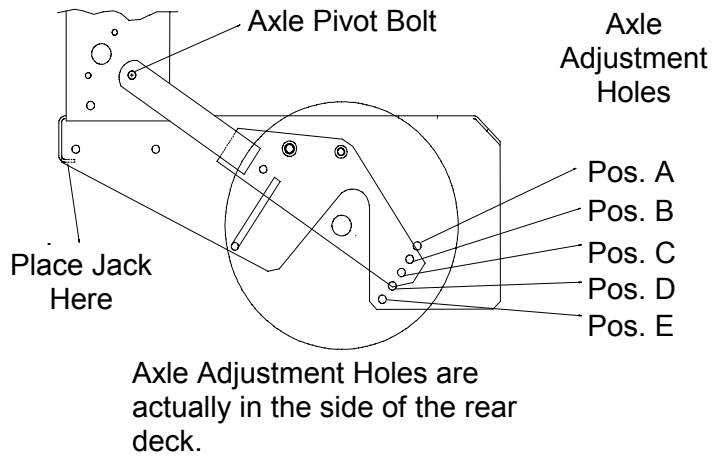

FIG. 16
- d) Loosen but do not remove the two (2) axle pivot bolts and the two (2) axle adjustment bolts (See Figure 16).
- f) Raise the back end of the engine deck up enough to remove the two (2) axle adjustment bolts.
- g) With the jack, raise or lower the back end of the engine deck so that two (2) axle adjustment bolts can be reinstalled in desired hole location. A tapered punch can be used to help align the holes.
- h) Retighten all four (4) bolts, lower unit and remove jack.
- k) Using the appropriate chart for your unit, adjust the caster spacers as directed to match with the axle hole selected. (See Figure 16) Refer to the charts and illustrations on the following pages to properly adjust for desired cutting height.